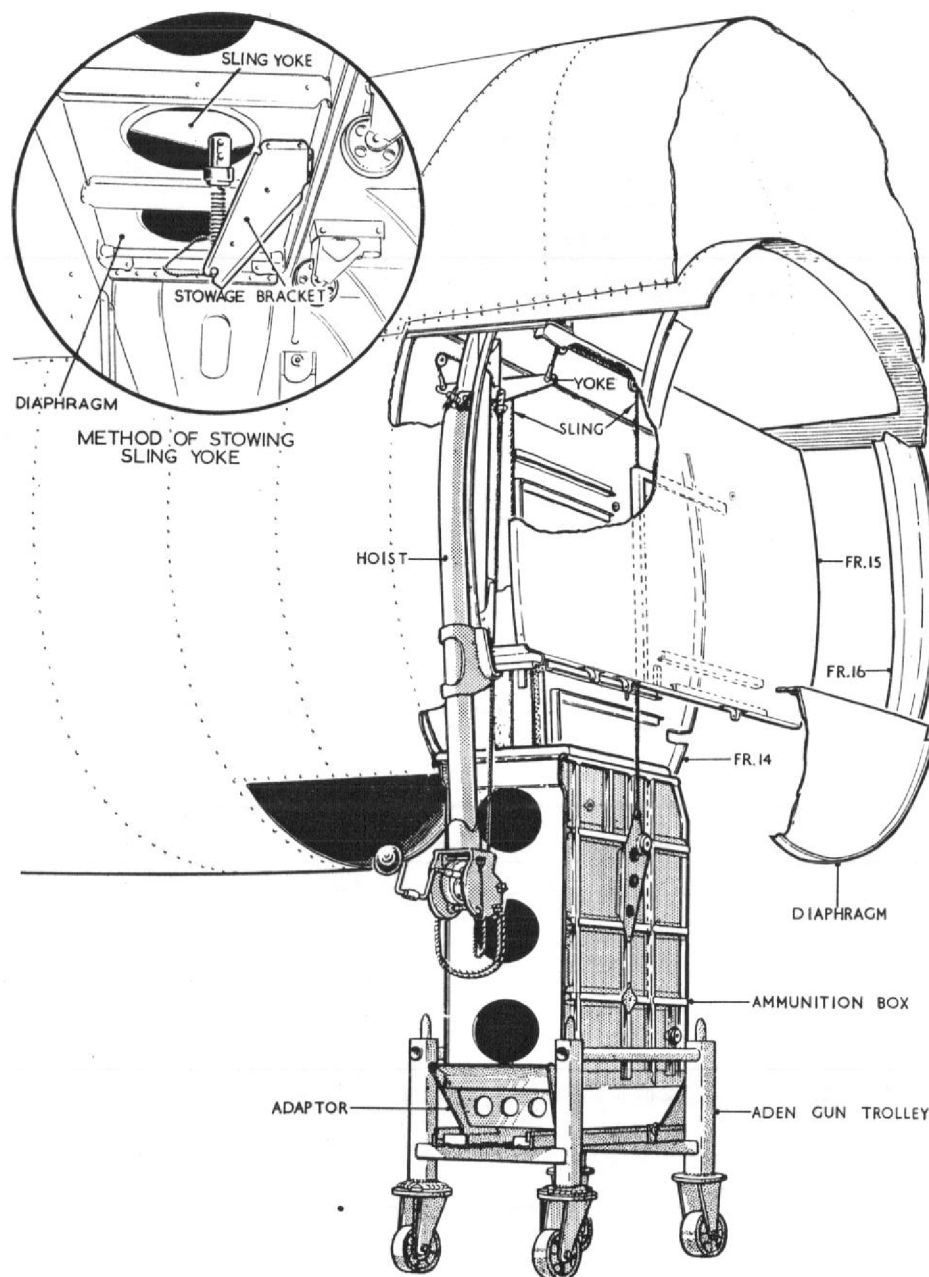

Fig.9 Ammunition box removal
25. This is used as shown in fig.9 in conjunction with the hoist which is pip-pinned in the side plates at the lower end by use of the two pip-pins provided on the hoist, and a further pip-pin which is attached to the side plate of the support tube. To fit the support tube into position, the 'U' bracket is engaged with the under-surface of the longeron. At the top, the support tube is secured by threading the attached spigot into the hole provided in the aircraft structure.